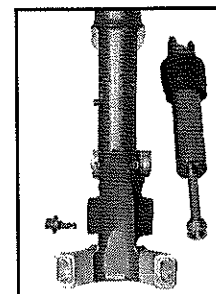

Fig. 35
7. Grasp the upper shock mount and pull the damper from the shock body (Fig. 35).